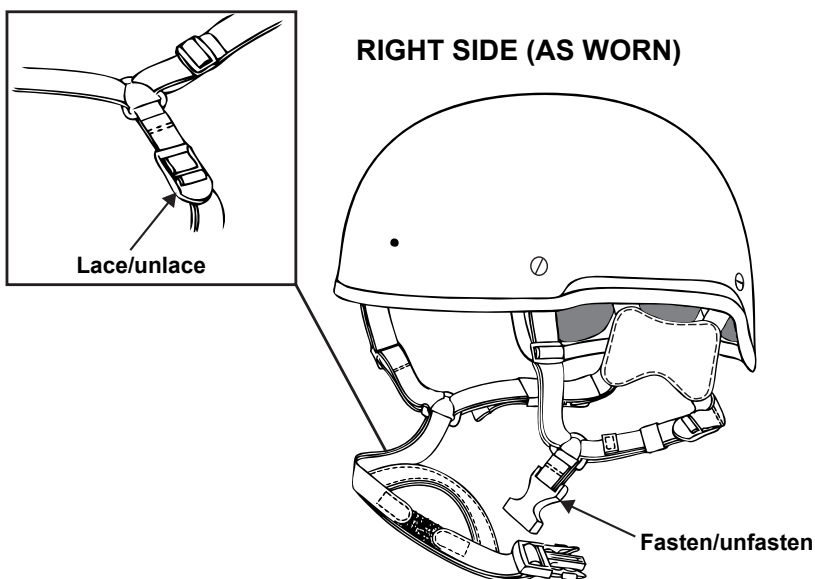

Figure 21. Chin Strap
1. Referring to **Figure 21**, unfasten the chin strap buckle on the left side (as worn) of the retention assembly.